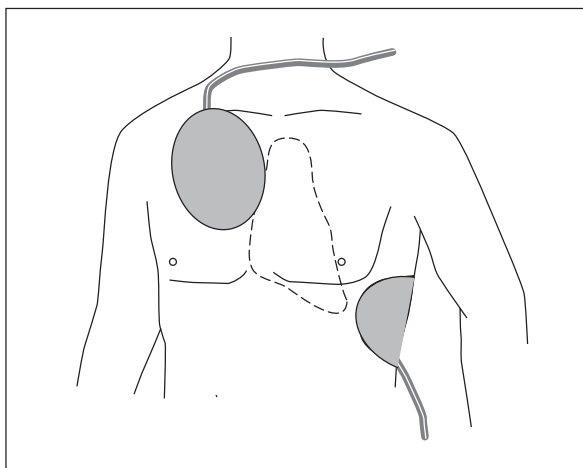

Figure 5-2. Pad application points
- Before applying the pads, check the application points on the patient's chest (Figure 5-2); they must be clean and dry. Then clean the skin by rubbing the application points vigorously with a dry cloth. Do not use alcohol or alcohol wipes. This could increase the contact impedance. Shave, if the patient's chest is hairy.